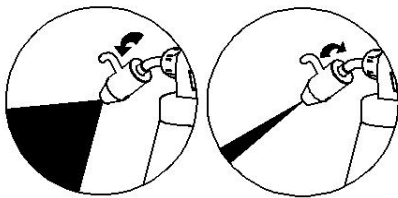

Fig. 4
3. Adjustment of spray dispersion: The spray dispersion can be adjusted by turning the nozzle cap. As seen in Fig.4, turn the small handle on the nozzle cap clockwise. The spray dispersion becomes linear. Turn the small handle counterclockwise, spray becomes a mist.